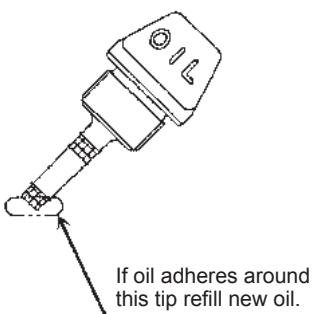
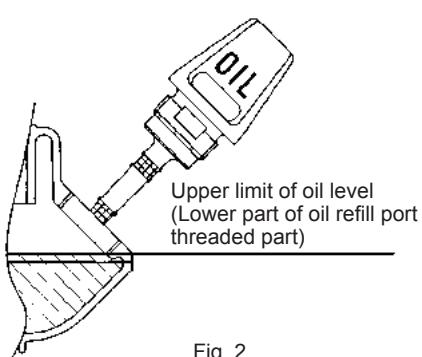

Fig. 1
Fig. 2
- When the oil is in short in such a way that the oil gauge touches the oil only by its tip, in particular with the oil gauge remaining inserted in the crankcase without screwing-in (Fig. 1), refill new oil near the port (Fig. 2).
(1) Keep the engine level, and detach the oil gauge.
(2) Fill oil up to the edge of the oil refill port. (Refer to Fig.2 of the preceding page).